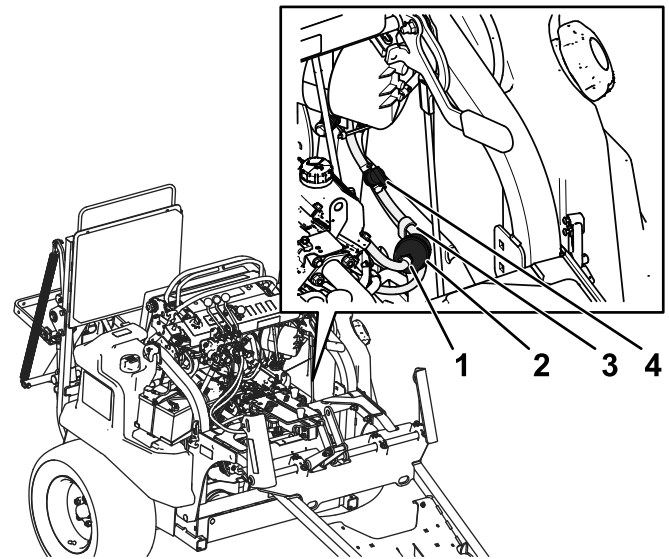

Figure 85
7. Clamp the fuel lines on both sides of the fuel filter (Figure 85).
8. Squeeze the ends of the hose clamps together and slide them away from the filter (Figure 85).